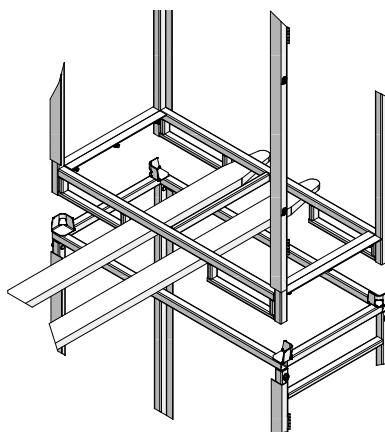

Fig. 36.3
- Transport with forklift truck (Fig. 36.3)